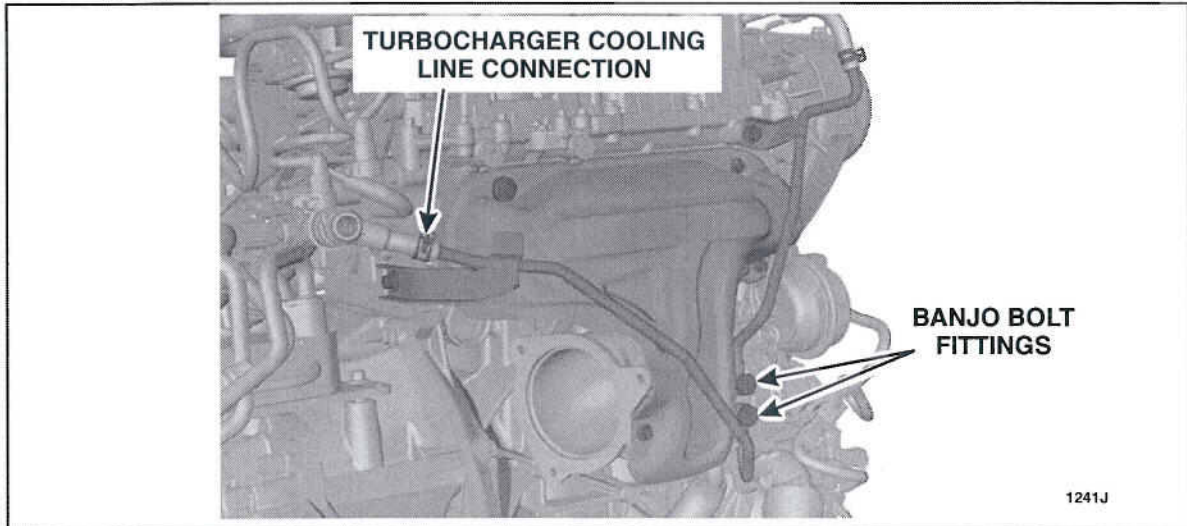

FIGURE 12
23. Inspect for coolant leakage at the turbocharger cooling line connections and at the banjo bolt fittings. See Figure 12.